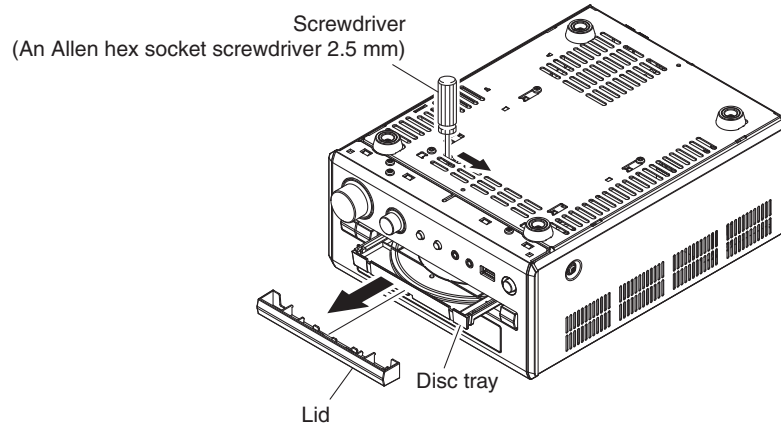

Fig. 2
- Move the slider in the direction indicated in the figure below with a screwdriver until the disc tray is ejected. (Fig. 2)